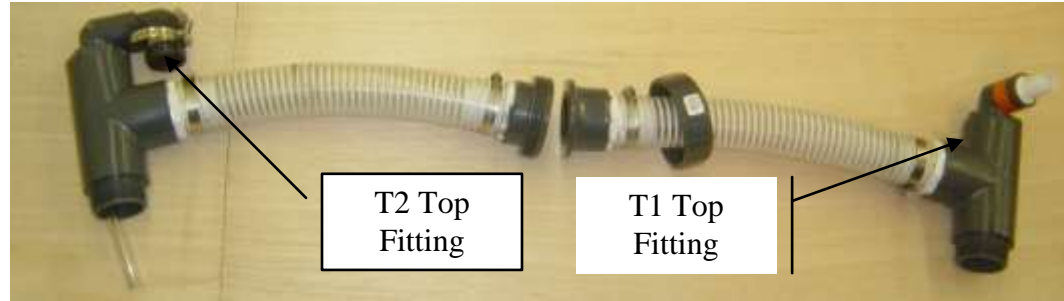

Figure 33: T1 and T2 Top Fittings
- a. Locate the T1 and T2 Top Fittings shown in Figure 33.